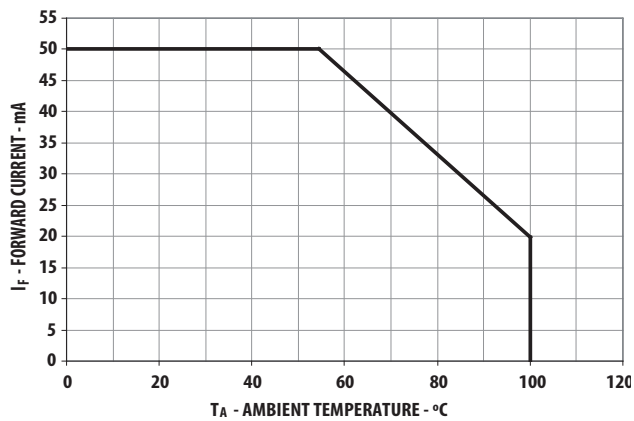

Figure 4. Maximum forward current vs. ambient temperature
- Derate linearly as shown in Figure 4.